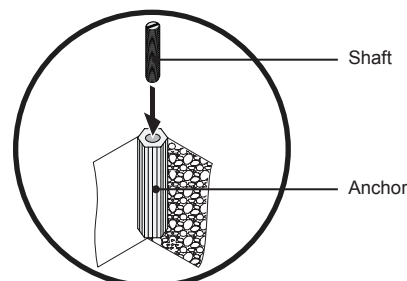

Figure 10. Drilling the Mounting Hole
- 1 At each marked location, drill a $\frac{7}{16}$ " hole 1 1/2" in depth (Figure 10). Repeat this step for the remaining locations.
- 4 Thread the shaft into the anchor. If needed, a screwdriver maybe used. Leave $\frac{3}{8}$ " of the shaft exposed (Figure 10).